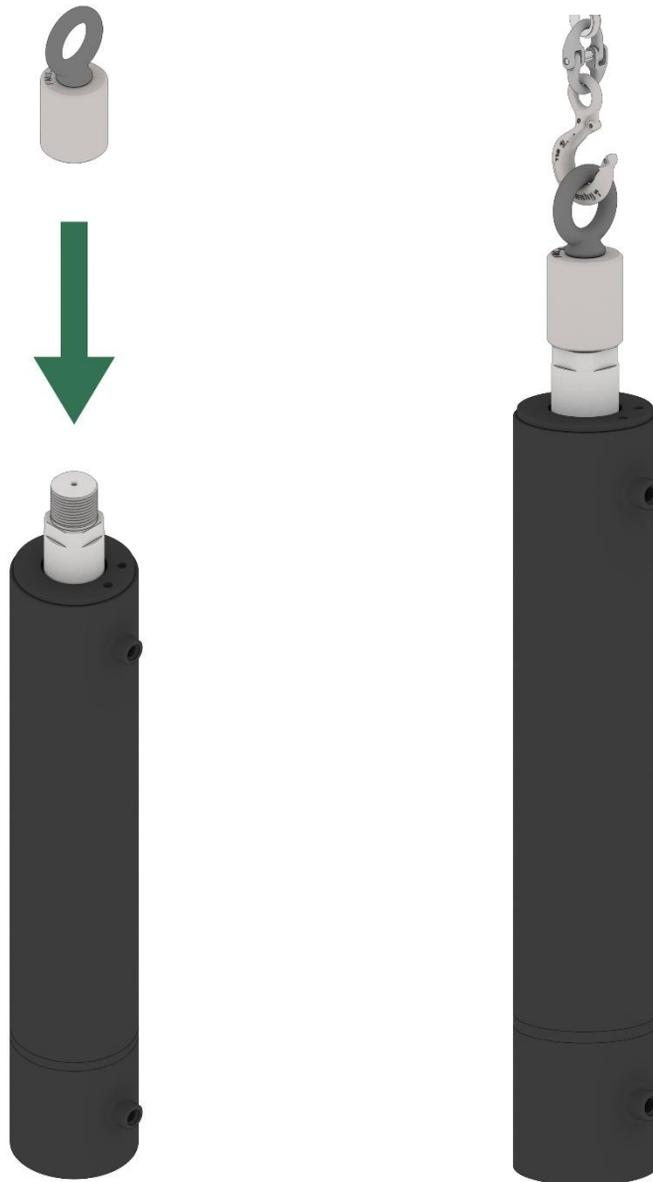

Figure 28
*NOTE- KET offers an accessory lifting cap to be used for removal/assembly of the cylinder. See accessory lifting procedure in Figure 28.